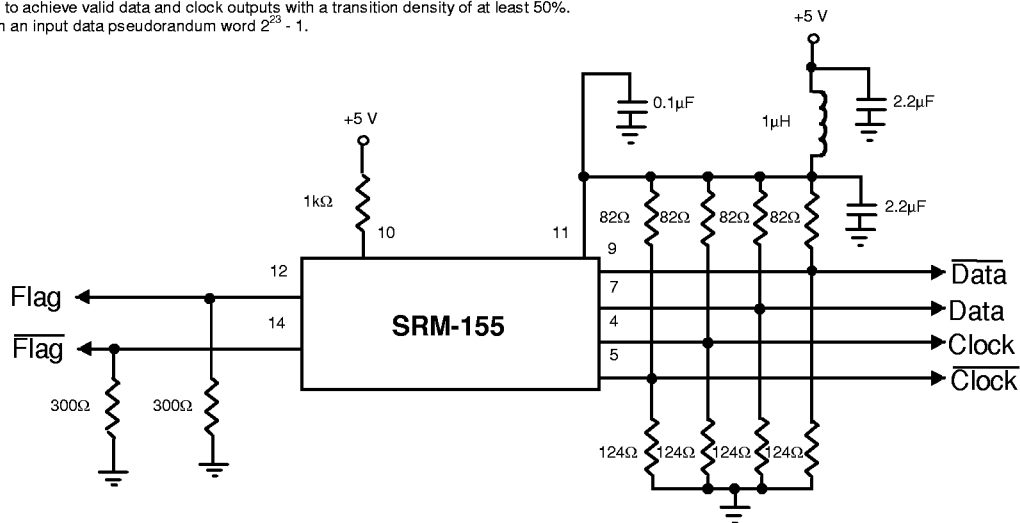

Figure 3. PECL Interface
2. Measured with a load of $R_L = 50\Omega$ to $V_{CC} - 2V$. See figures 3 and 4. ECL levels are specified for dc measurement, an additional tolerance of 50 mV should be included for dynamic measurements.